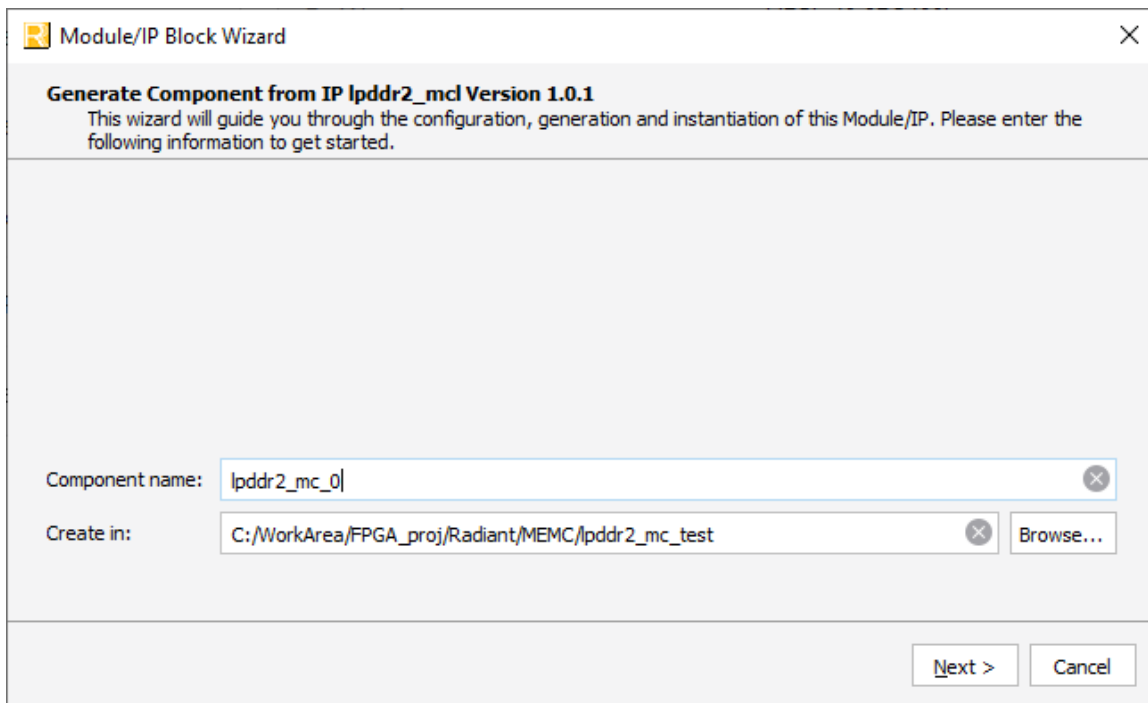

Figure 3.1. Module/IP Block Wizard
2. In the **IP Catalog** tab, double-click on **LPDDR2_SDRAM_Controller_Lite** under **IP, Processors, Controllers and Peripherals** category. The **Module/IP Block Wizard** opens as shown in Figure 3.1. Enter values in the **Component name** and the **Create in** fields and click **Next**.
- Click the **Finish** button. All the generated files are placed under the directory paths in the **Create in** and the **Component name** fields shown in Figure 3.1.